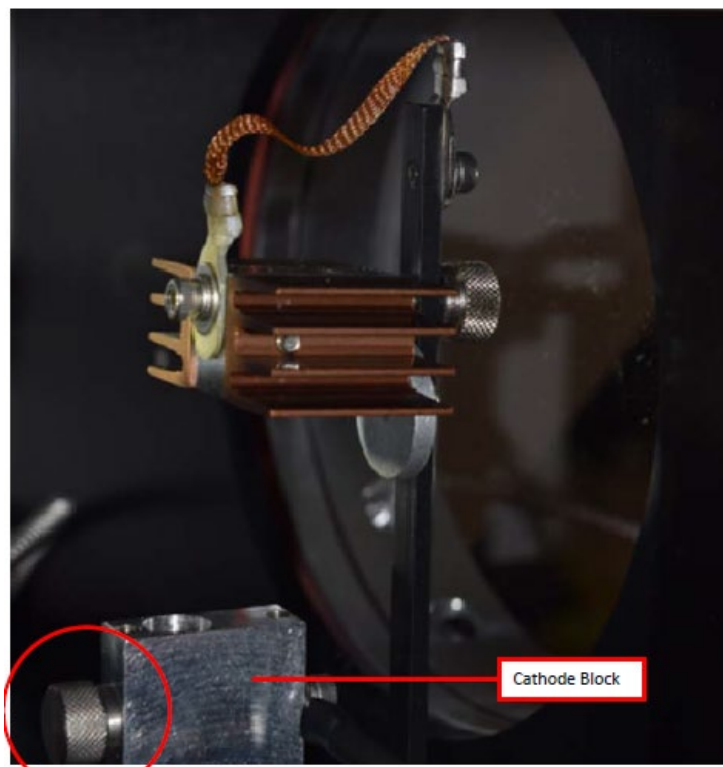

Figure 11. Loosen the thumbscrew on the Cathode block at the bottom of the UV source.
5. Loosen the retaining thumbscrew on the Cathode block at the bottom of the source (**Figure 11**).